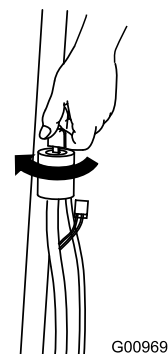
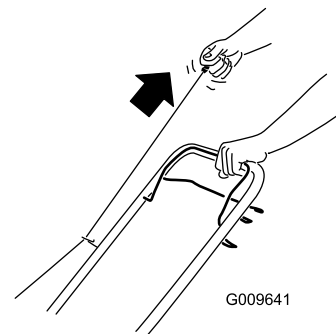

Figure 13
Figure 14
3. Turn the ignition key (Figure 13) (electric-start models only) or pull recoil start handle (Figure 14).